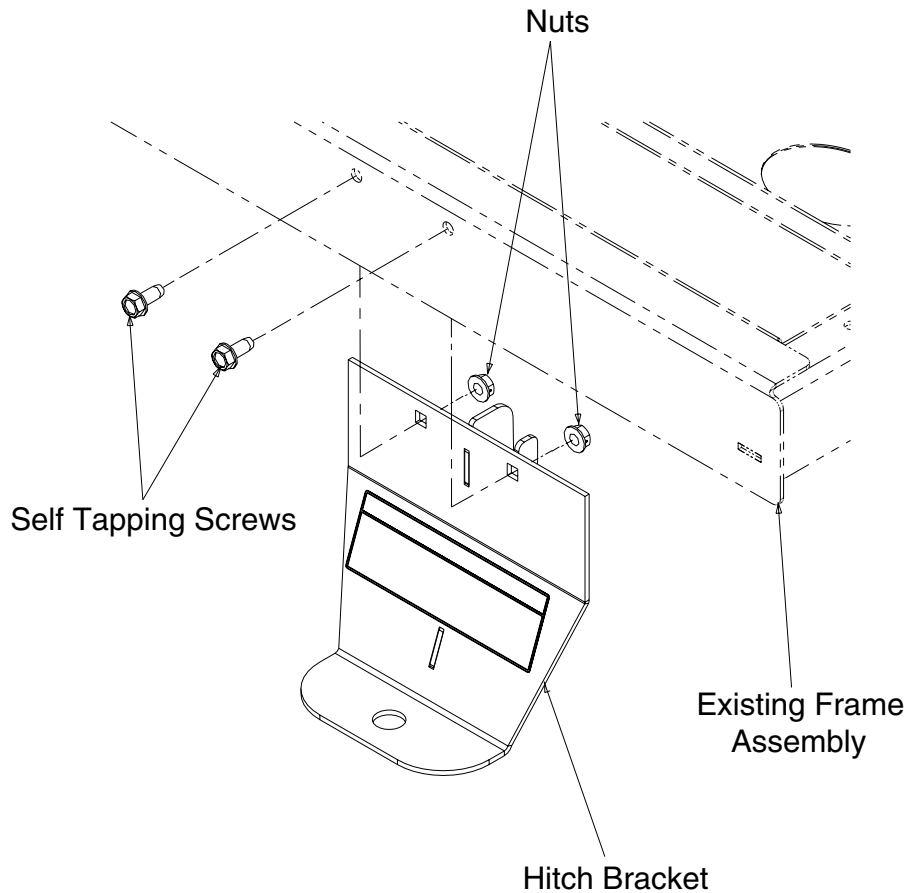

Figure 1
# Figure 1 and Parts List
2. Fasten Hitch Ref. 3 (02002579) to existing Frame Assembly using self tapping screws 5/16-18 x .75, and 5/16-18 hex flange locknuts. See Figure 1 below.